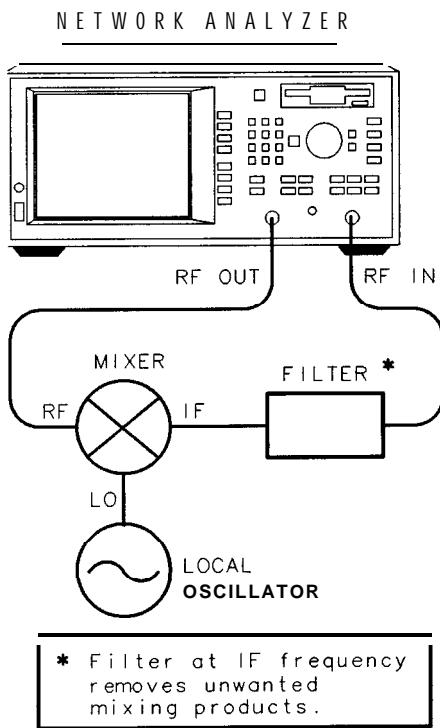

Figure 3-14. Equipment Setup For a Conversion Loss Measurement
1. Connect the equipment as shown in Figure 3-14, except replace the mixer with a through cable.
4. Replace the through cable with the mixer as shown in Figure 3-14.